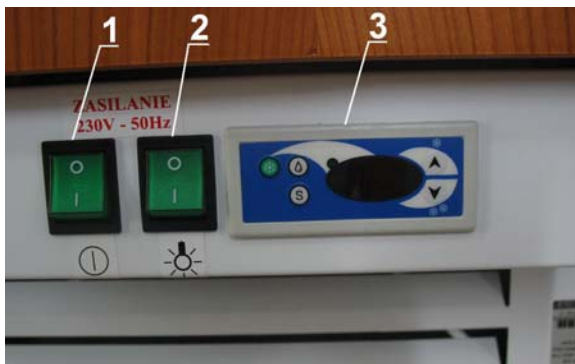

Fig.6 Control panel
- Switch on the main switch Fig.6/ 1 \(p. 8\), which activates the thermostat, and then aggregate of the device
- Set the temperature on thermostat control panel Fig.6/3 \(p. 8\) (service details on p. 18 or 19)
- Switch on the lighting switch Fig.6/2 \(p. 8\)